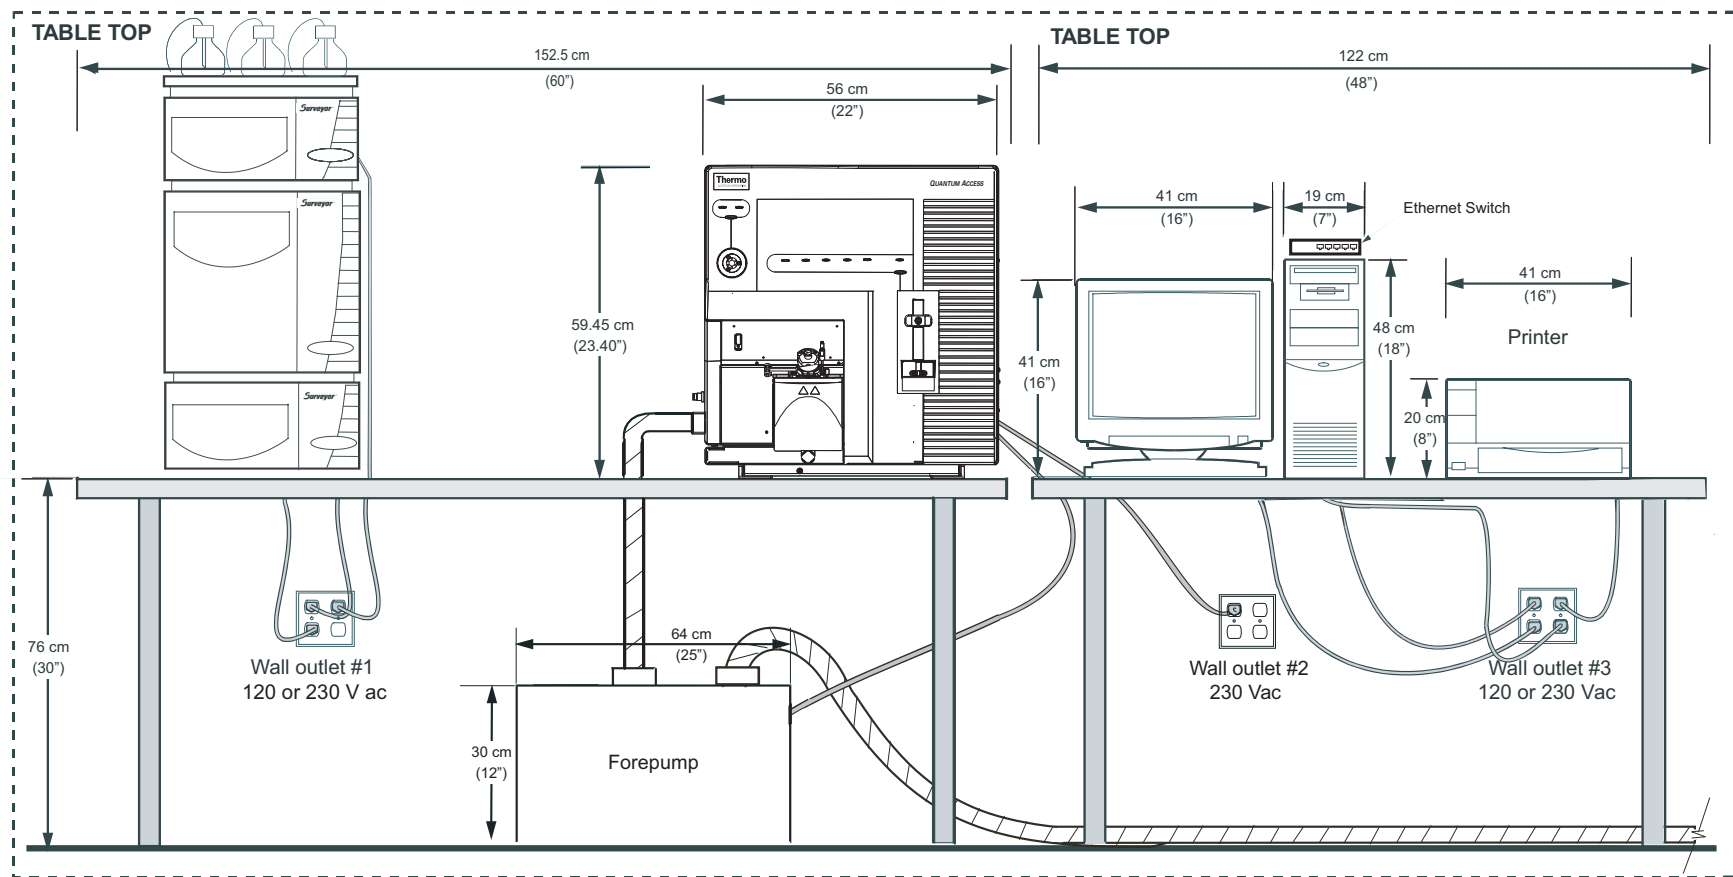

Figure 1. Installation and space requirements for your TSQ Quantum Access system
The recommended layout for the TSQ Quantum Access system is shown in Figure 1. The space requirements and weights of the components of the typical TSQ Quantum Access system are given in Table 2.
- If the workbench has space beneath it, place the forepump under the workbench immediately behind the TSQ Quantum Access instrument. (See the Table Top layout in Figure 1.) Either run the vacuum hose behind the workbench or make a 64 mm (2.5 in.) diameter hole through the bench for the vacuum hose. Allow for room to run the power cords from the forepump through the hole.